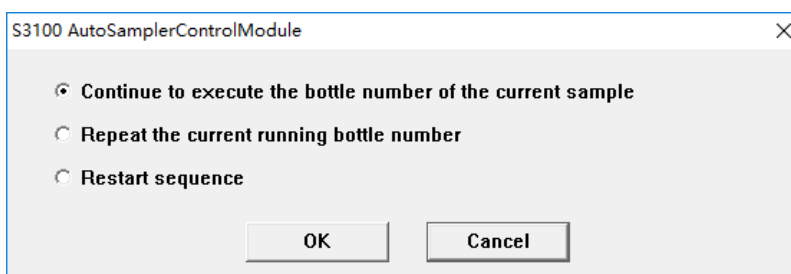

Figure 4-16: Three different options for continuing to run sequences
- **【Run】** Click Run to put the auto-sampler into operation. If the auto-sampler is working, the Run button is unavailable or invalid. After running the auto-sampler again after stopping, you can encounter the following status, as shown in Figure 4-16.